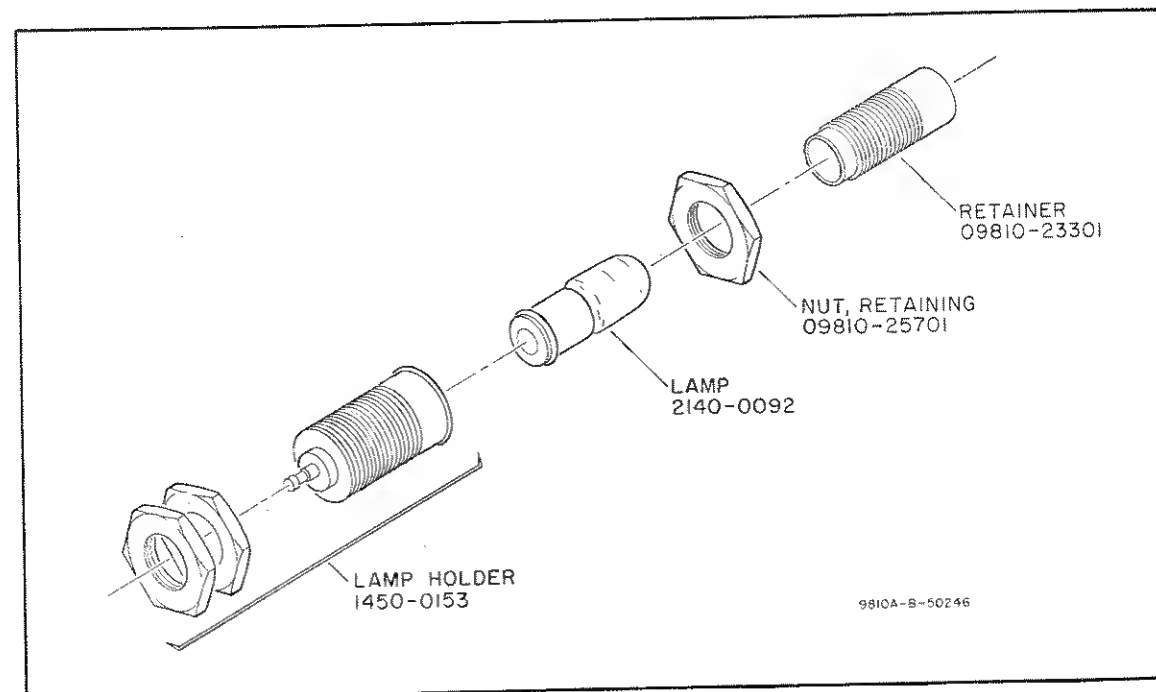

Figure 8-2. Lamp Replacement
- c. Loosen brass nut on the front (Lamp) end of the assembly with a $\frac{3}{16}$ " wrench. (See Figure 8-2.)